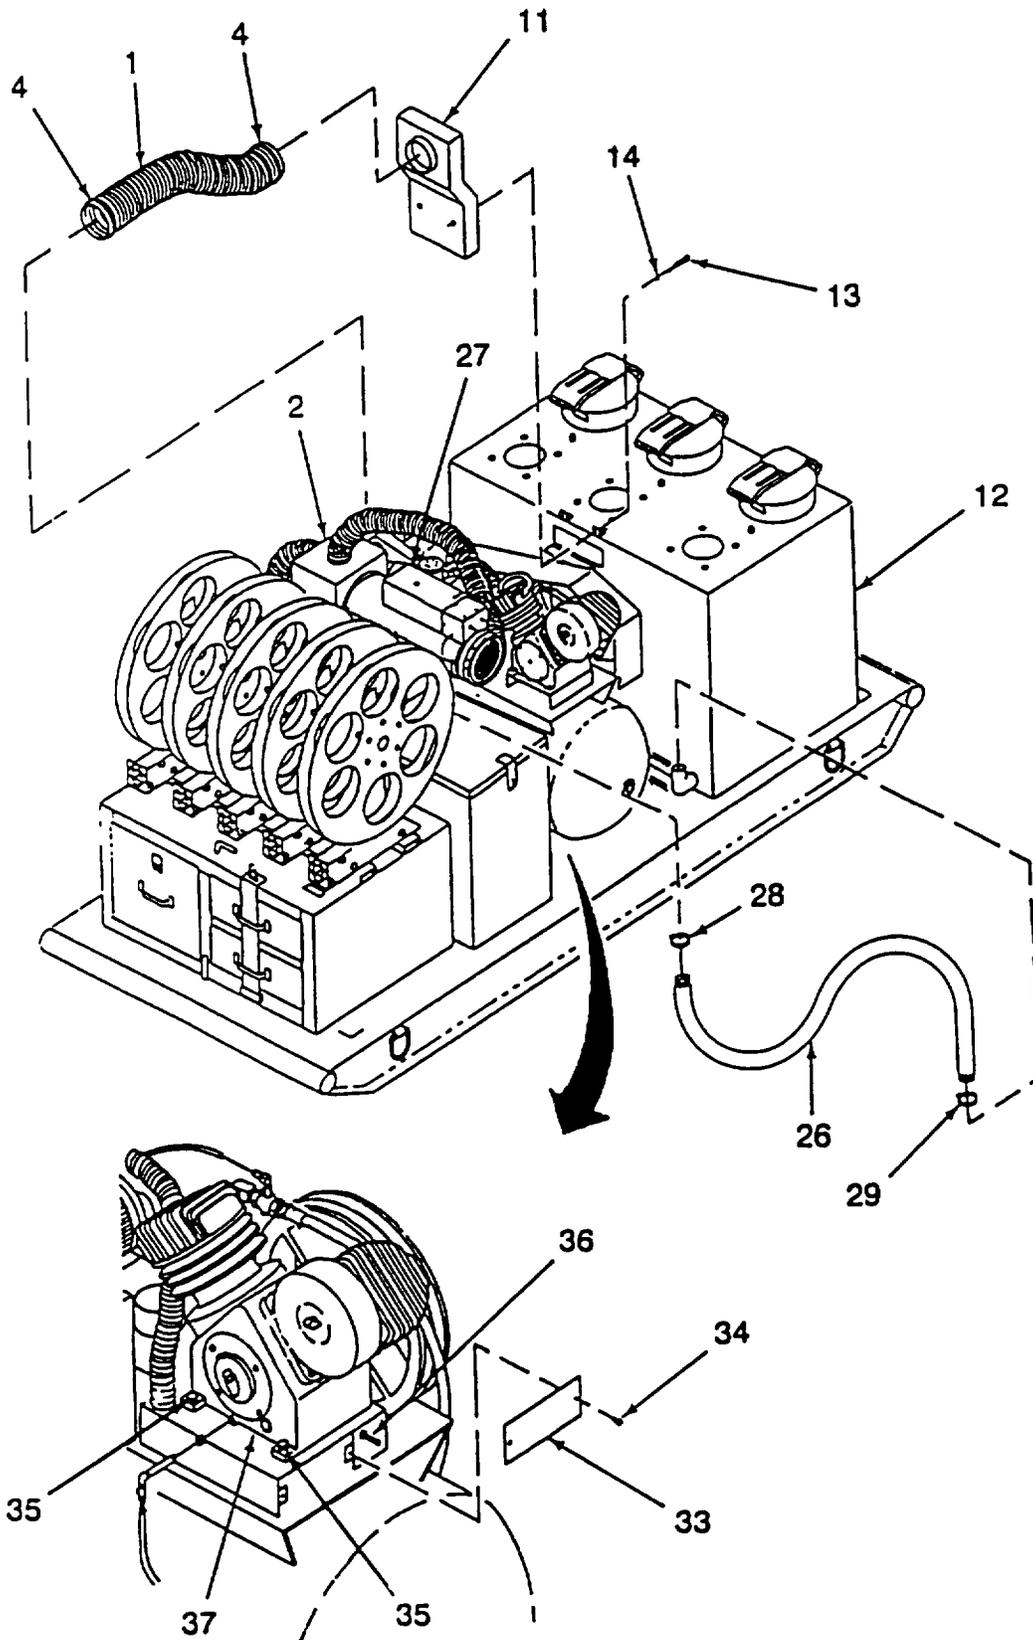

Figure 4-21. Compressor Belts (Sheet 1 of 4)
- (1) Removal. (Refer to Figure 4-21).
- (b) Remove lube tank duct (1) from heater plenum (2) and heat inlet (11) by loosening two clamps (4) Pull lube tank duct (1) off and set aside.
- (c) Remove two nuts (5) and two lockwashers (6) from muffler (7) at engine exhaust. Remove gasket (8) Bend muffler (7) and exhaust hose (9) down and away from diesel engine (10).
- (d) Remove heat inlet (11) from lube tank (12) by removing two hex head cap screws (13) and two lockwashers (14) Slide heat inlet (11) out Discard two lockwashers (14).
- (e) Remove cap screw (15), washer (16), and self-locking nut (17) from clutch arm (18) on belt guard (19) Discard self-locking nut.
- (f) Remove cap screw (20), washer (21), and self-locking nut (22) from clutch fork (23). Move clutch arm (18) out of the way Discard self-locking nut.